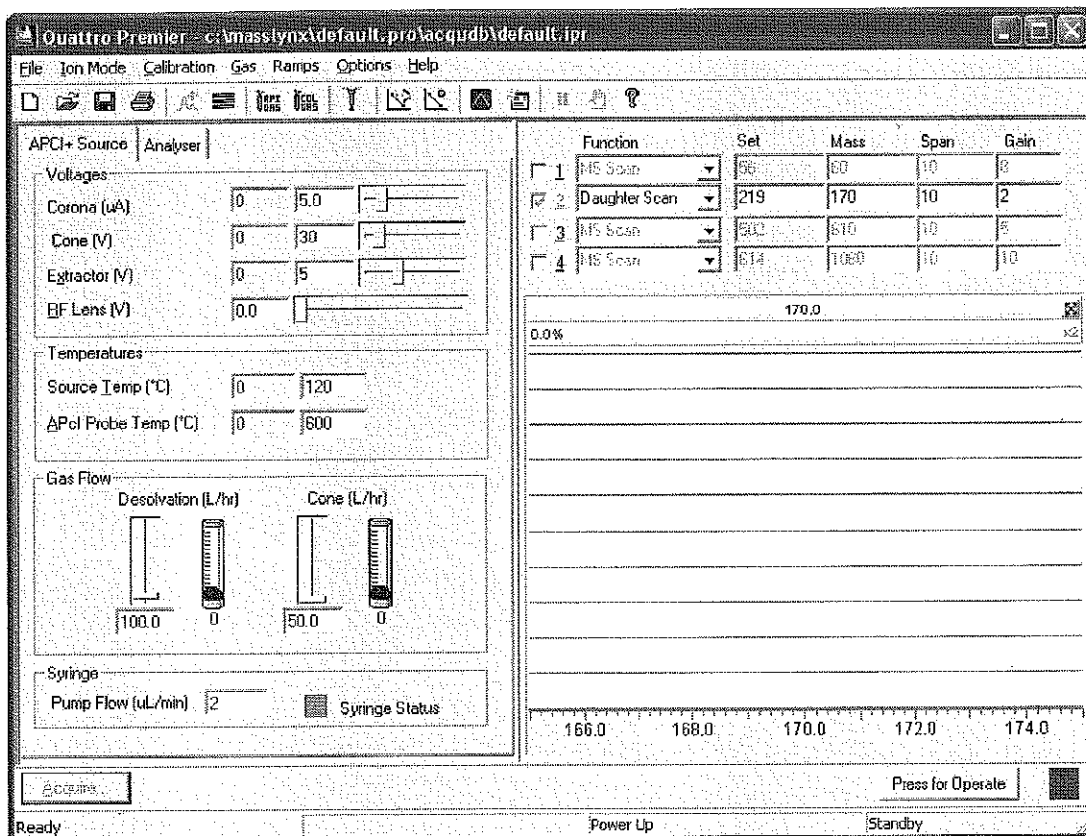

Figure 3-4 Tune Window APCI+ Source Page
4. In the MassLynx Tune window, select Ion Mode > APCI+ to display the APCI+ Source page (Figure 3-4).